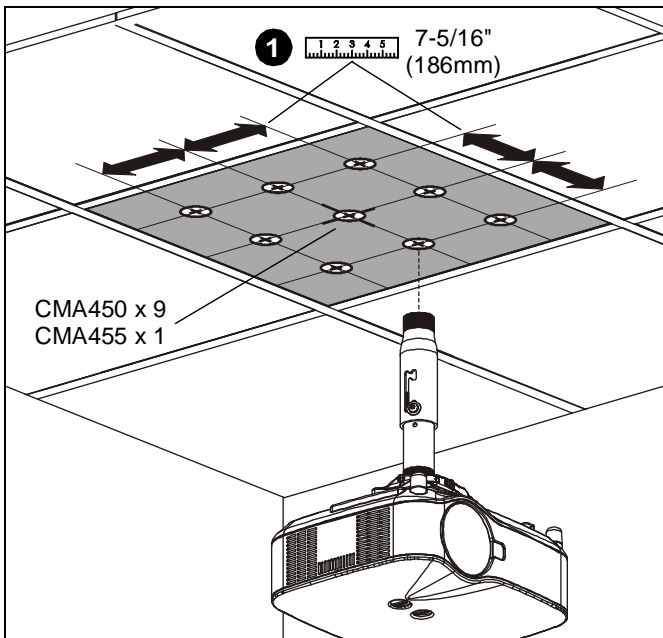

Figure 1
- The CMA450 can accommodate any one of nine 1-1/2" NPT or NPSM following ANSI/ASME B1.20.1 (Schedule 40, 0.154" minimum thickness steel or aluminum - ASTM B221) threaded extension column (not included) locations (See Figure 1), while the CMA455 can only accommodate a single column location (center). Threaded extension column must have a minimum of four threads engaged.